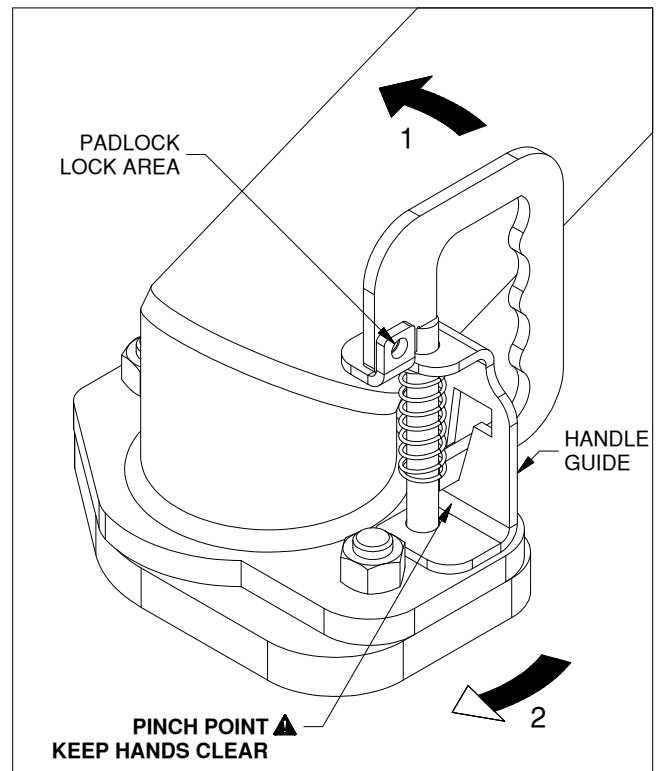

Figure B2: Coupler in "closed" position
- 4. Lower the trailer.** Slowly lower the trailer onto the ball. When the ball is fully engaged in the coupler, set the coupler to the "closed" position. (1) To do this grip the handle and rotate it counter clockwise. (2) Rotate the coupler bottom plate clockwise until the latch pin is through the coupler bottom plate and the handle is flat against the bottom of the handle guide. See figure B2.
- 5. NOTE:** If desired, it is possible to lock the Extend-A-Goose for added security. With the coupler handle in the "closed" position, use a padlock in the area noted in Figure B2.